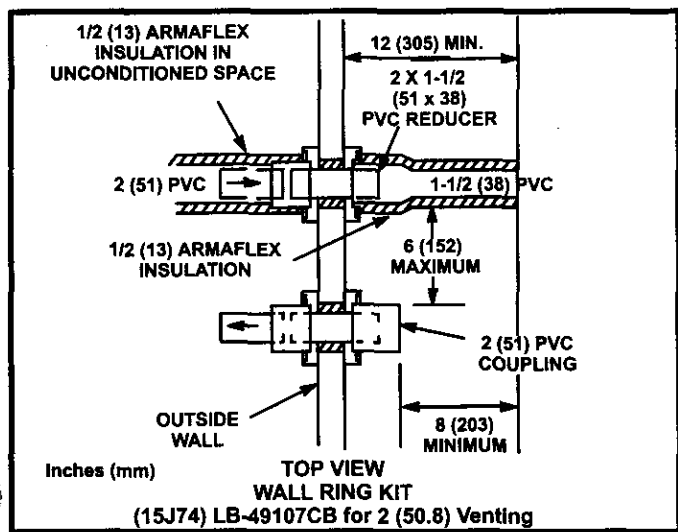

FIGURE 9
- 6 - On field supplied terminations for side wall exits, exhaust piping should extend a maximum of 12 inches (305mm) beyond the outside wall. Intake piping should be as short as possible. See figure 9.